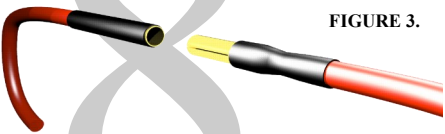

FIGURE 3.
3) Choose a wiring method for the motor and battery leads. Direct wiring uses no plugs and provides the best connection between the motor and the ESC. You can use Tekin 5.5mm Hi-Power bullet connectors (TT3055, Fig 3.) for easy motor removal. Battery connector choice is up to you; use the female plug on the battery and the male on the ESC and double check the polarity.